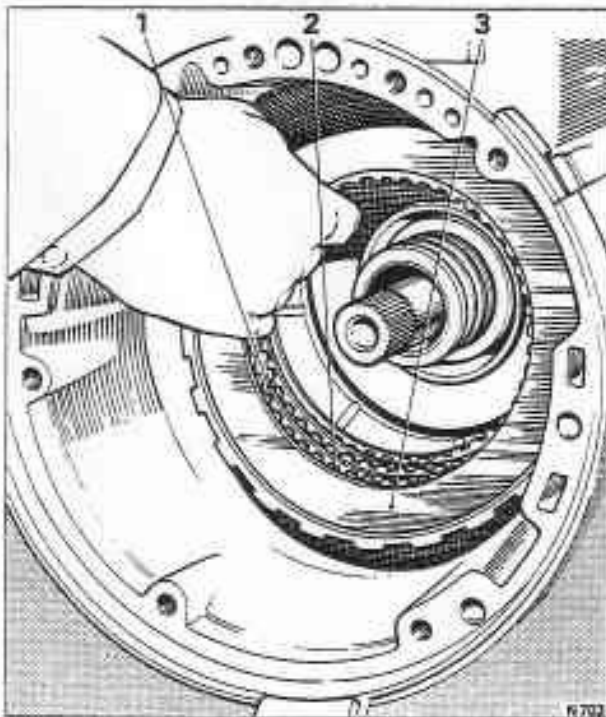

Fig. T20-22 Fitting the intermediate clutch plates
11. Lubricate the one waved, two flat steel plates, and three composition intermediate clutch plates with clean transmission fluid, then fit the clutch plates. Commence with the waved steel plate, then fit alternate composition and flat steel plates (see fig. T20-22).